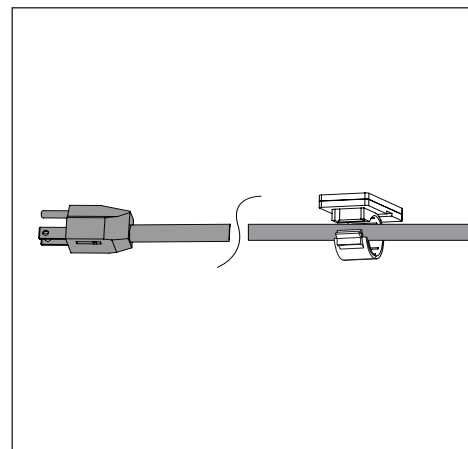

Figure 1.9
9. Secure each cord clip to the wall. Then insert the cord into each clip and press the clip closed to secure the cord. Note: Leave adequate slack near the fan to allow fan to swivel and/or tilt (Figure 1.9).